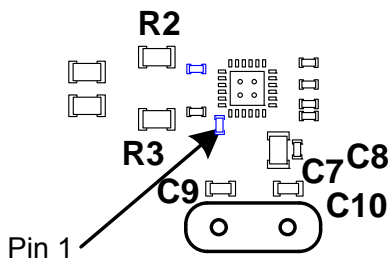

Figure No. 3
2. These caps are shown as C7 & C8 in Figure No. 3 below.
1. Place the 25.000 MHz crystal and the associated 15 – 33 pF capacitors as close together as possible and as close to the LAN8742 QFN (XTAL1, pin 5 & XTAL2, pin 4) as possible. They should form a tight loop. Keep the crystal circuitry away from any other sensitive circuitry (address lines, data lines, Ethernet traces, etc.). Refer to Figure No. 3 for crystal component placement (C9 & C10).